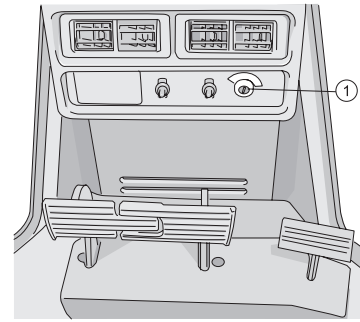

Figure 2-59
- Turn the starting key (1) to the starting position (⚡). (Figure 2-59)
- When engine started, release the starting key (1), and the key will automatically return to the (I) (ON) position. (Figure 2-59)